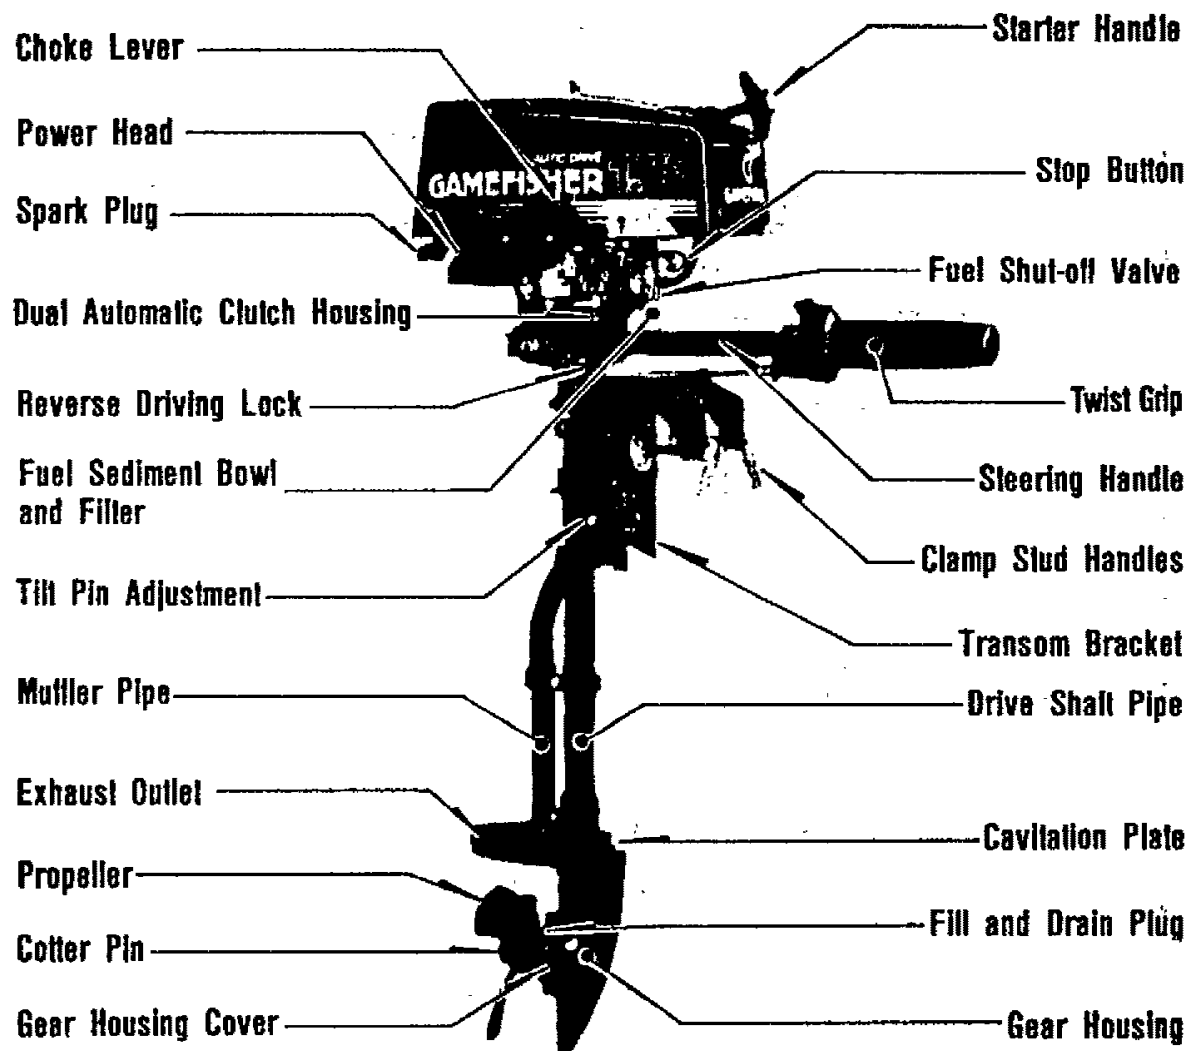

Figure 1
- a. This outboard motor has special design features as shown in Figure 1.